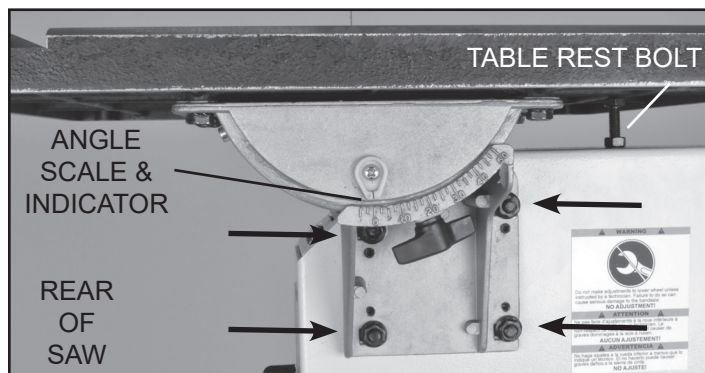

FIGURE 11
1. Loosen the four Hex Flange Nuts (#116) that hold the lower trunnion and table to the bandsaw frame. FIG. 11.
4. With the table secured in position, check that the table Angle Indicator (#120) reads zero degrees on the scale on the lower trunnion. Loosen the screw holding the indicator and reset if necessary to the zero degree reading. FIG. 11.